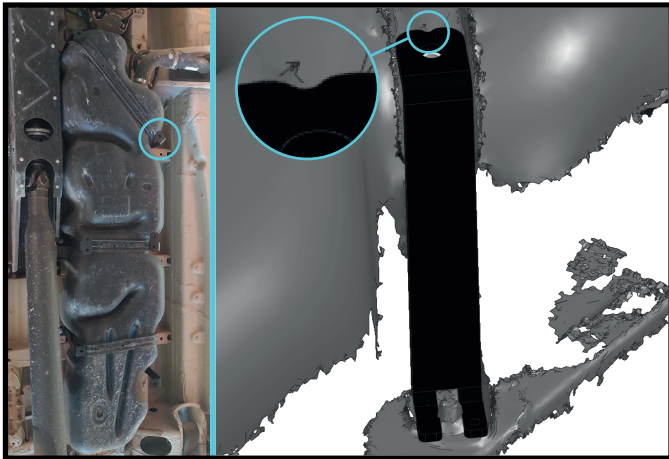

Fig. 7
7. Remove factory bolt. Fix the front left bracket (item 4) using factory bolt as shown in fig.7.